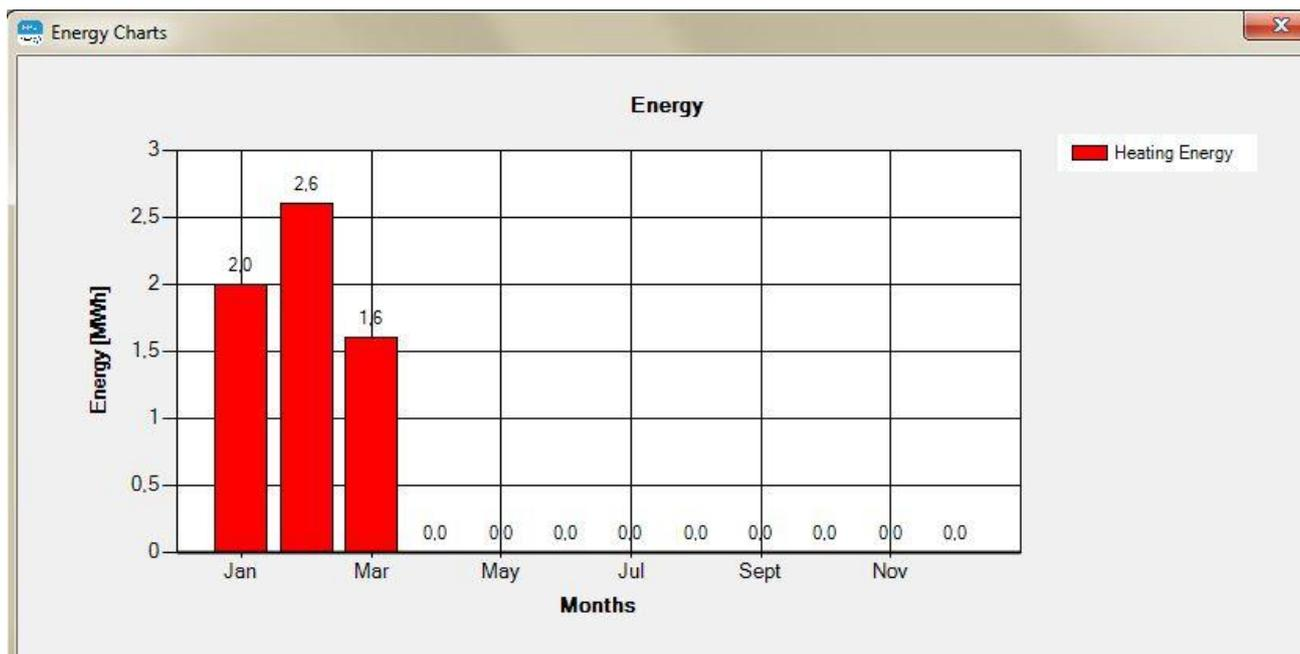

Figure 16. Window of the histogram chart of the energy
- **CHARTS:** after selecting the variables (heating energy, cooling energy or both) to plot, pressing the "SHOW" button displays a histogram chart of the energy for the 12 months of the year (see Figure 16).